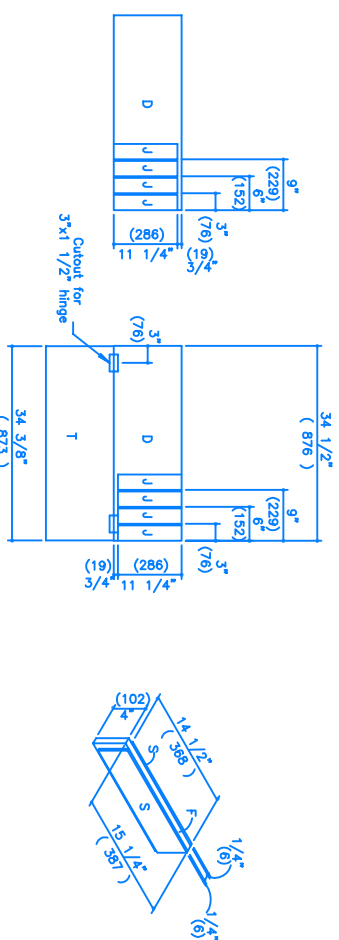

FIGURE 5
- 3) Glue and nail pieces S to piece F as shown (Fig 5) with 3/4" finishing nails, ensuring that S is flush with the rear and top edges of F. Glue and nail pieces J to pieces D with 3/4" finishing nails. Pieces J are flush with the rear edges of D and one piece J on each D is flush with the front edge of D. If you are going to edgeglue the D's and the flush side of T at this time to achieve proper hinge spacing. But piece T to the lower piece D and lay on the hinges. Trace the outlines of the hinges and mortise out with a chisel so that the hinges will be flush with the surfaces of D and T. Attach the hinges to T with hardware of 5/8" length.